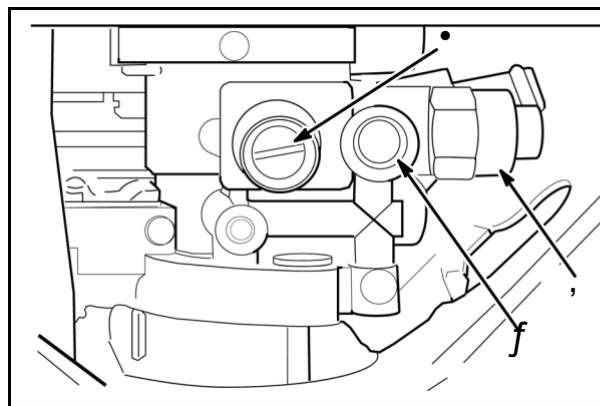

Fig. 58
NOTE: The main adjustment is the large brass adjustment screw (1) just to the left of the solenoid (2) and capped port (3), **Fig. 58**. The idle adjustment is located below and to the left of the main adjustment. An accurate CO meter is required to adjust the gaseous fuel mixture.